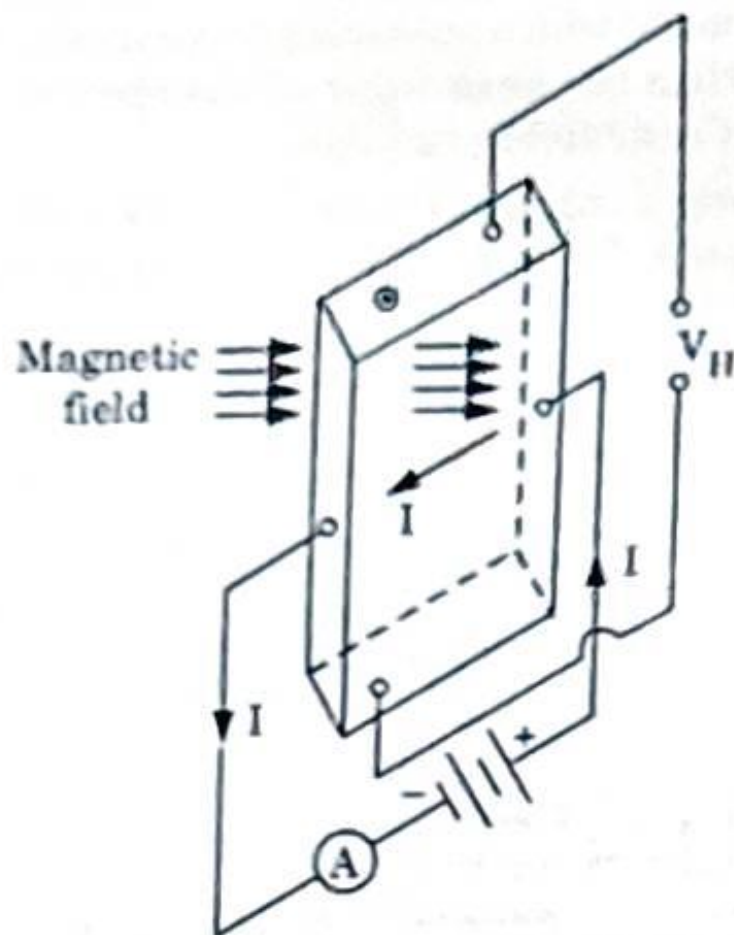

Fig. 2.25.3. Basic hall generator.
- The Hall crystal in the form of a slab is connected to a battery so that a current I flows through the slab in the manner shown in the Fig. 2.25.3 and the magnetic field is applied so that it is perpendicular to the slab of the Hall crystal.